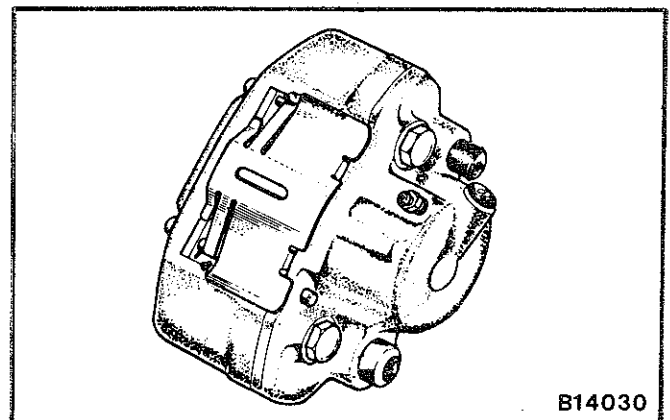

Fig. 7—Installing the pad protector
(1) To replace the brake pad, push the piston back using Special Tool CT1092 and insert the pad through the shim.
(2) Install the K spring and M clip as shown, ensure they are correctly positioned.
(3) Install the pad protector in the direction shown, Fig. 7. Ensure the protector pawl is located between the shim and the caliper.
(4) Check brake dragging torque. To check, drive the car for about 100 m (330 ft.) at low speed. Stop the vehicle using engine braking without depressing the brake pedal and then check the dragging torque. If the specified torque is exceeded, disassemble the piston and check the piston sliding part for dirt and rust and the piston seal for elasticity. If the torque is still too high, check to see if the correct master cylinder check valve is installed.